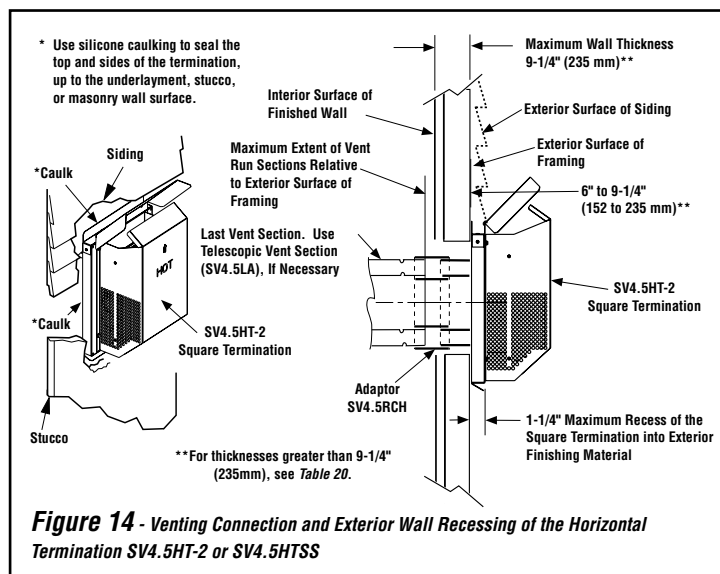

Figure 14 - Venting Connection and Exterior Wall Recessing of the Horizontal Termination SV4.5HT-2 or SV4.5HTSS
- Combustible Exterior Wall:** A combustible siding standoff is required when terminating through combustible siding materials. For vinyl siding, stucco or wood exteriors, a siding standoff may be installed between the vent cap and the exterior wall. Siding standoff prevents excessive heat from damaging siding materials. Siding material must be cut to accommodate standoff. Fasten vent cap to standoff. Apply nonhardening mastic around outside edge of standoff. Position standoff/cap assembly over the 12-1/8" x 12-1/8" rectangular hole and attach to exterior wall with appropriate type fasteners for wall material (see Figure 14). Siding standoff must sit flush against exterior fascia material.